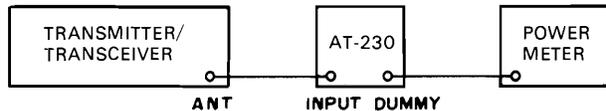

Fig. 1
- 1 Connect as in Fig. 1
As in Fig. 1